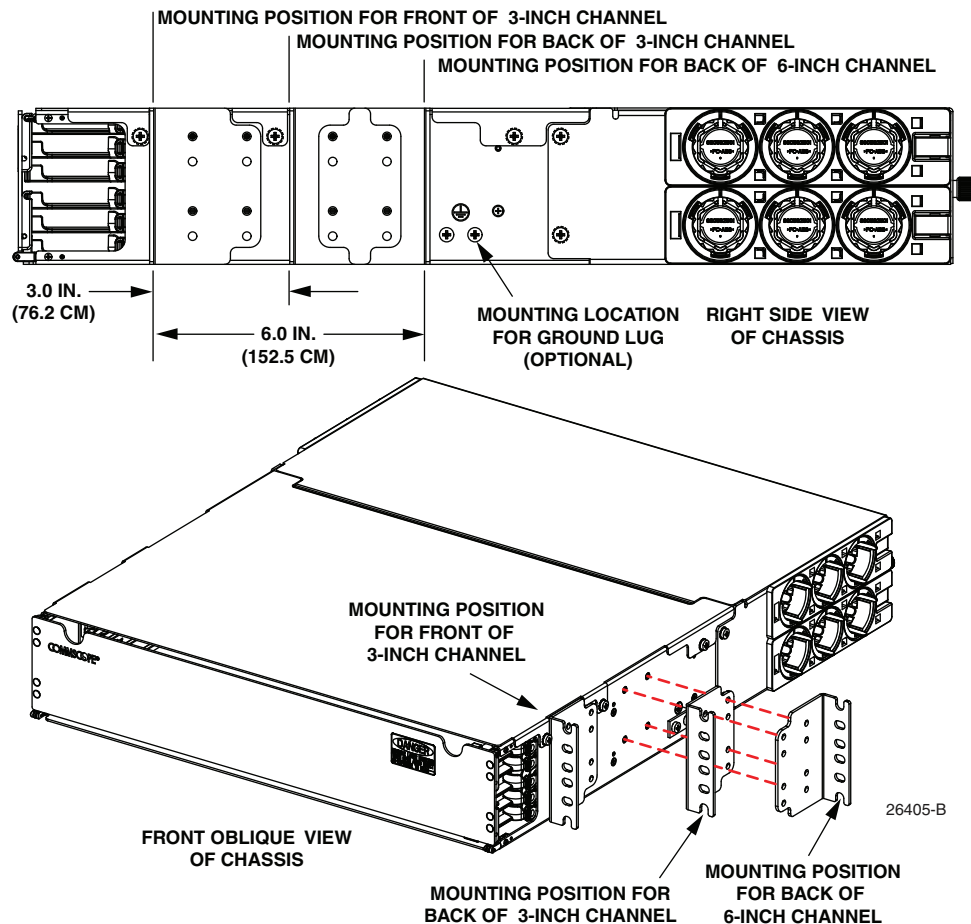

Figure 7. Mounting Options
The EHD Panel, shown in Figure 7, is mounted in a 19 inch (48.26 cm) channel rack or cabinet. When mounting into a cabinet, it is recommended that the rear mounting rails be 24 inches back (60.96 cm) from the front mounting rails. Trunk breakouts are intended to come into the rear right or left side of the panel. CommScope trunks with standard breakouts and gland adapters are the preferred method.
The panel can be installed in a 19-inch (48.26 cm) or 23-inch (58.42 cm) equipment rack with a 3-inch or 5-inch channel, as shown in Figure 7. Use the following procedure to mount the panel:
2. Select the mounting position to be used referring to Figure 7, and if required remove and re-install the mounting brackets on the panel using the screws holding the brackets when shipped.